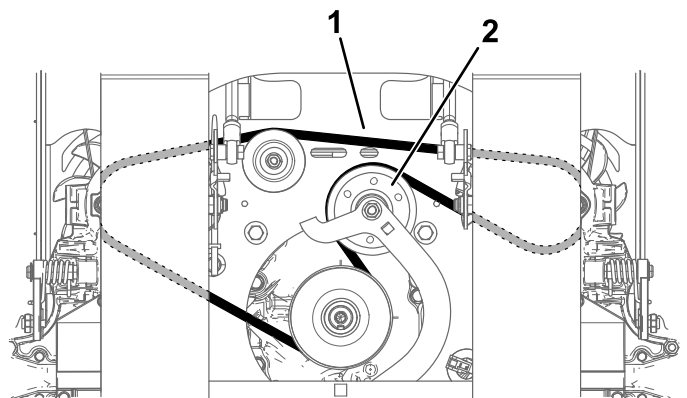

**Figure 58**
5. Insert a drive ratchet in the square hole of the idler arm to release the belt tension (Figure 58).
- 9. Install the spring to the spring anchor. Use the drive ratchet to apply tension to the spring to allow the belt to pass over the lip of the idler pulley (Figure 58).